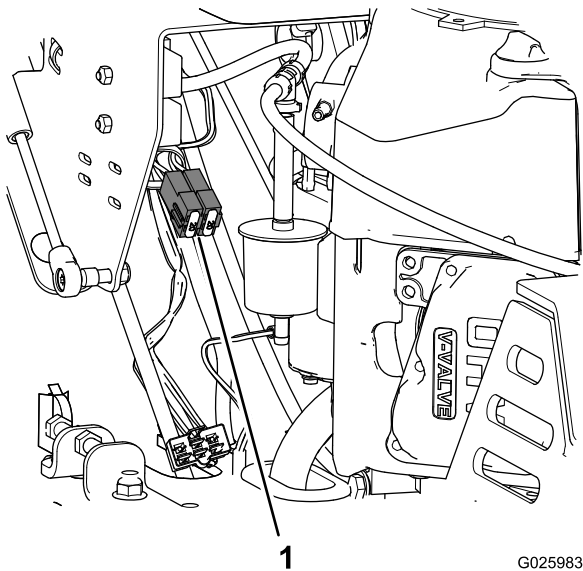

Figure 46
3. Pull the fuse from the socket of the fuse block (Figure 46).
4. Install a fuse of the same type and amperes into the socket of the fuse block (Figure 46).